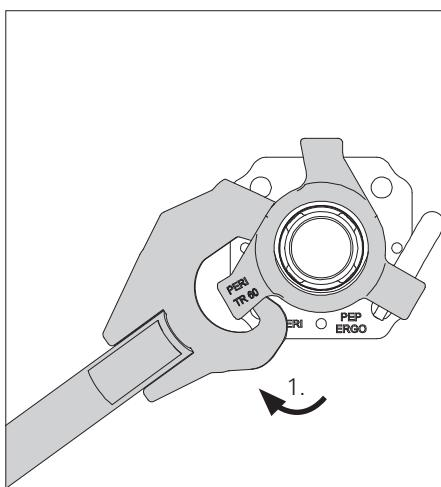

Fig. A2.01c
- Wingnut Spanner PEP item no. 118345 (Fig. A2.01c)